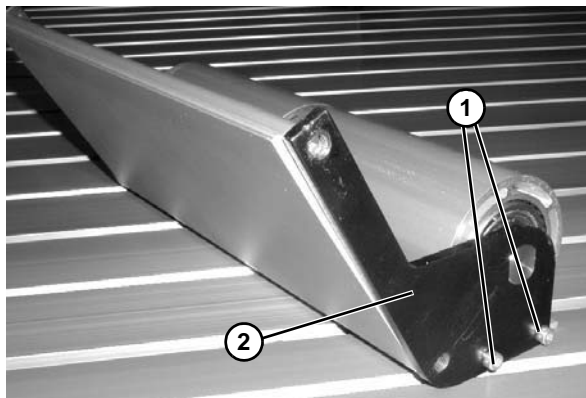

Figure 111
4. Remove screws (**Figure 111, item 1**) and idler guide side plate (**Figure 111, item 2**).